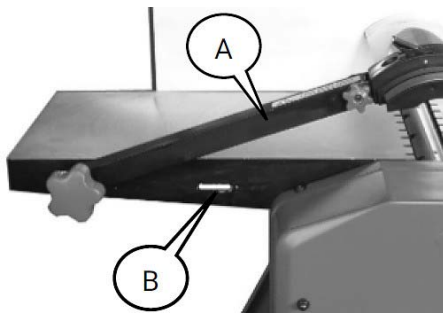
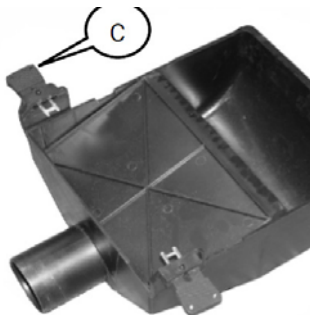

Fig. 9: Raise splitter shaft guard
Fig. 10: Unfolding the brackets
Step 5: Lift the splitter shaft guard (A, Fig.9) to the uppermost position.
Step 6: Unfold the holders (C, Fig.10) of the suction hood.
Step 8: Mount the suction hood (C, Fig.10) in the grooves (B, Fig.9) below the machine.